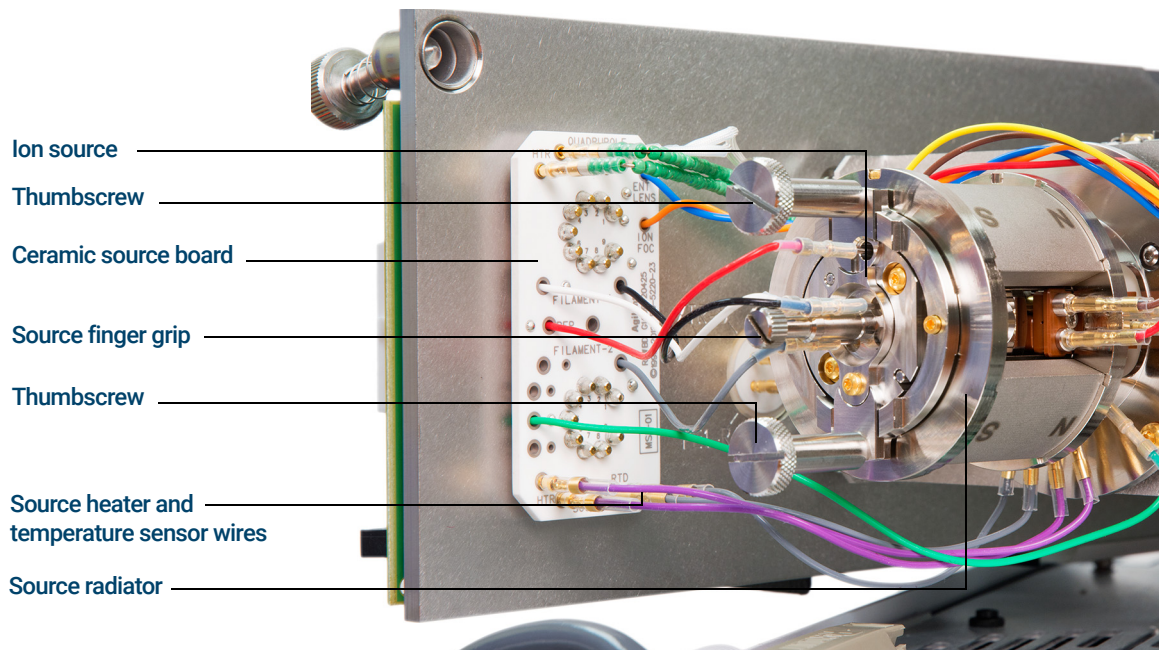

Figure 46 The analyzer chamber for the HES MSD
- 3 Remove the two large thumbscrews that hold the ion source in place. (See **Figure 46** on page 152.)
- 4 Disconnect the wires from the EI HES. (See **Figure 46** on page 152.) Do not bend the wires any more than necessary. (See **“To Connect/Disconnect Wiring to the EI HES”** on page 153.)